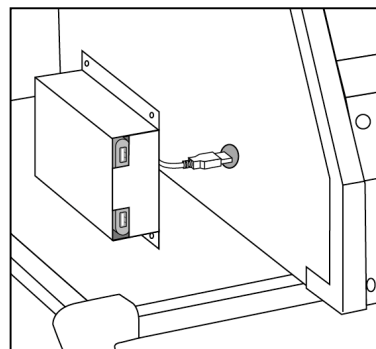

Figure 7: Insert Cable
3. Run the USB cable into the new hole in the cabinet. See Figure 7.